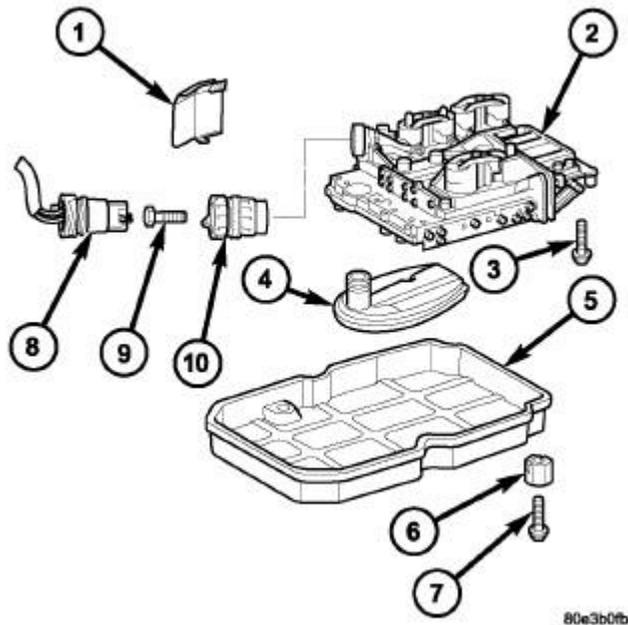

Fig. 62: Electrohydraulic Unit Components
4. Loosen adapter plug bolt (9) and remove from the adapter plug (10) from the transmission housing. Refer to **Fig. 62**.
5. Detach oil pan (5). Refer to **Fig. 62**.
6. Remove oil filter (4). Refer to **Fig. 62**.
7. Unscrew Torx® socket bolts (3) and remove electrohydraulic unit (2).